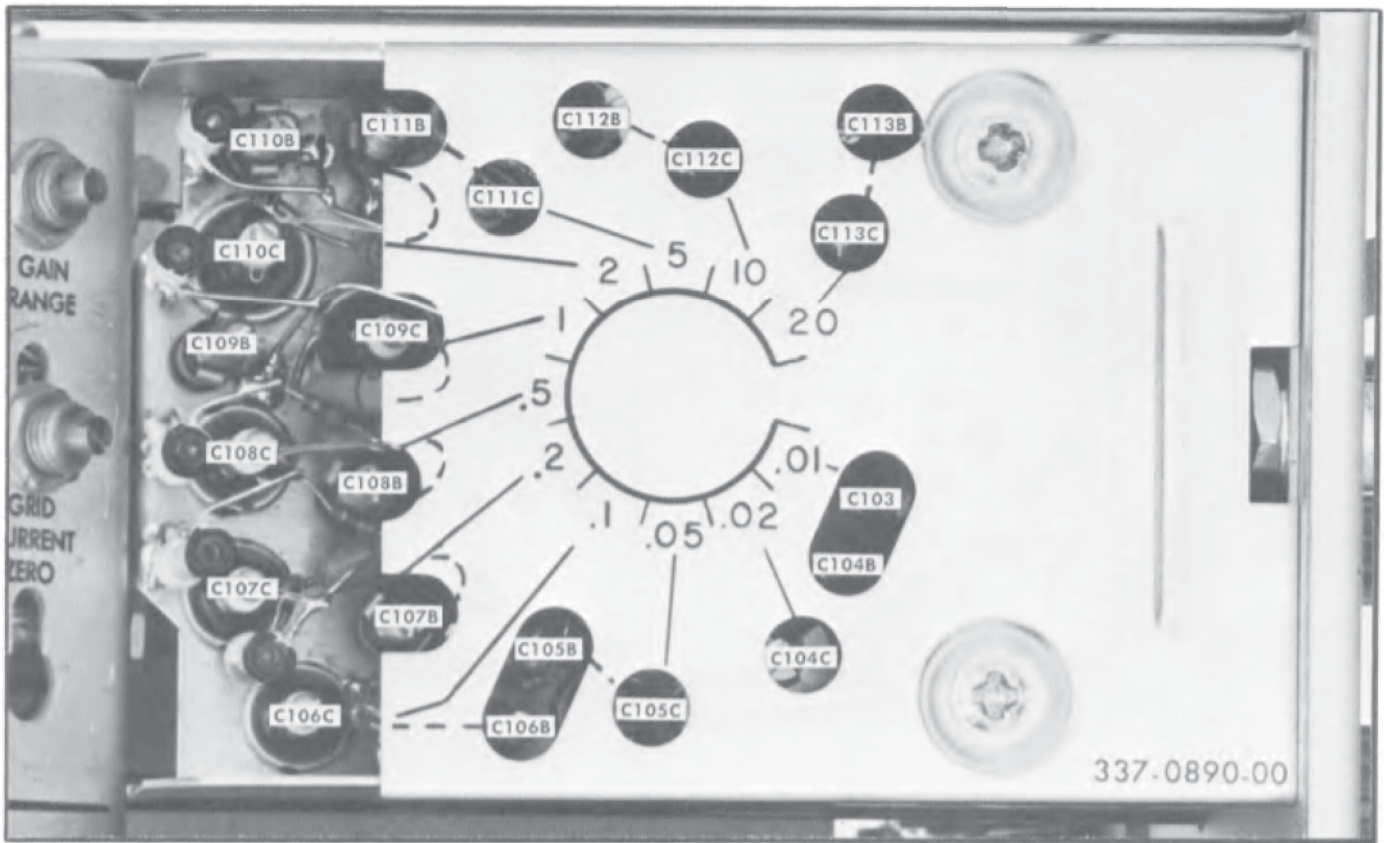

Fig. 6-9. Channel 1 attenuator input time constant adjustments.
- j. ADJUST—Refer to the appropriate column in Table 6-2 and Fig. 6-9 for the component to be adjusted for an optimum square cornered square-wave having less than 1% of overshoot, rounding, and tilt.
- h. ADJUST—Refer to the appropriate columns in Table 6-2 and Fig. 6-9 for the components to be adjusted for an optimum flat topped square-wave having less than 1% of overshoot, rounding and tilt.